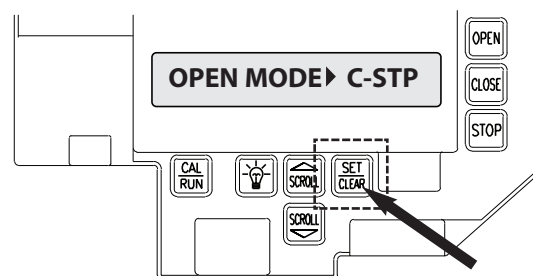

Figure 3
- 2) Press SET/CLEAR until display reads “OPEN MODE > C-STP.” **Fig. 3.**